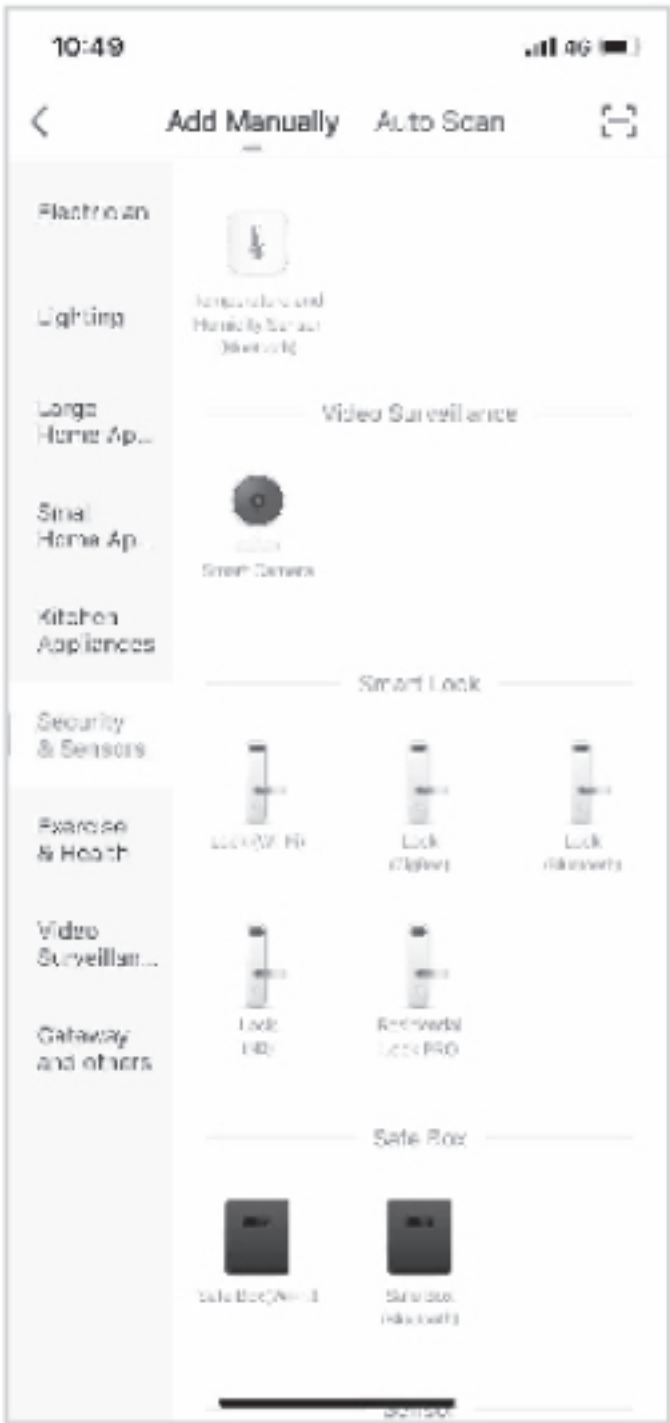

Figure 1
- (1) As Figure 1:
- ① Divide the Back Lock into Battery cover and Back panel.
- On the Tab of "my home", click "+" in the upper right corner to enter the interface in figure 1, select the WiFi door lock in security sensor part and enter the page in figure 2.